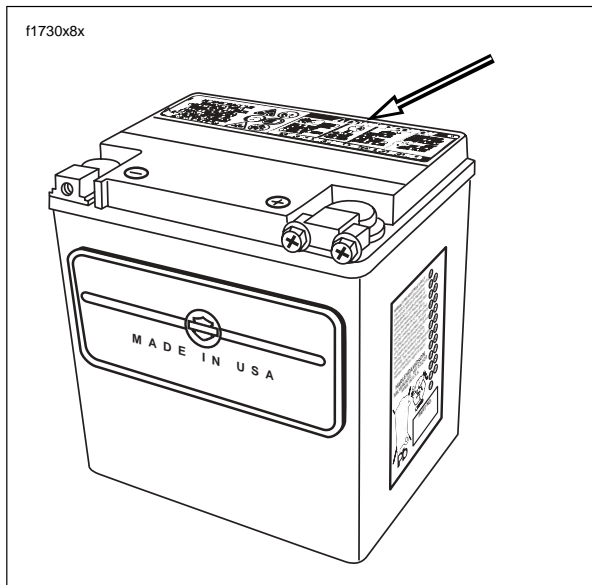

Figure 7-44. Battery Warning Label Location
**Figure 7-44.** Never remove warning label attached to top of battery. Failure to read and understand all precautions contained in warning, could result in death or serious injury. (00064a)